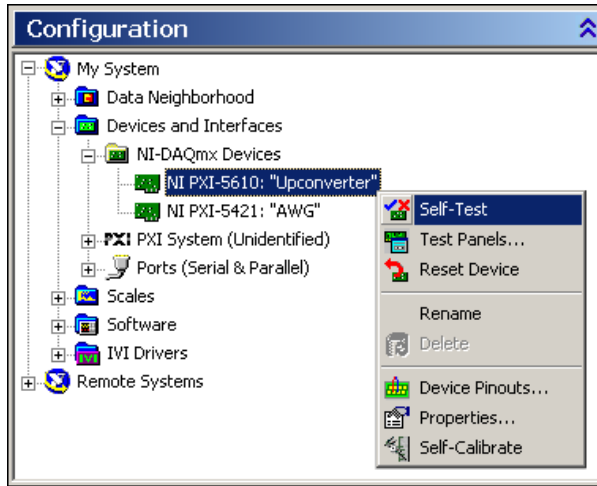

Figure 1-14. Select Self-Test from the NI PXI-5610 Right-Click Menu
11. Right-click the NI PXI-5610 and select **Self-Test**, as shown in Figure 1-14.